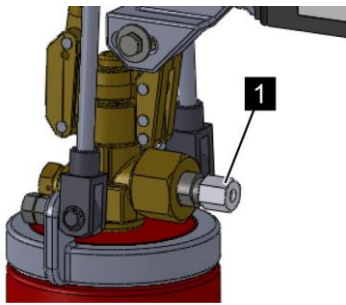

Fig. 81: Connecting the pilot line
38. ➤ Connect the pilot line on the control connection (Fig. 81/1) of the valve.